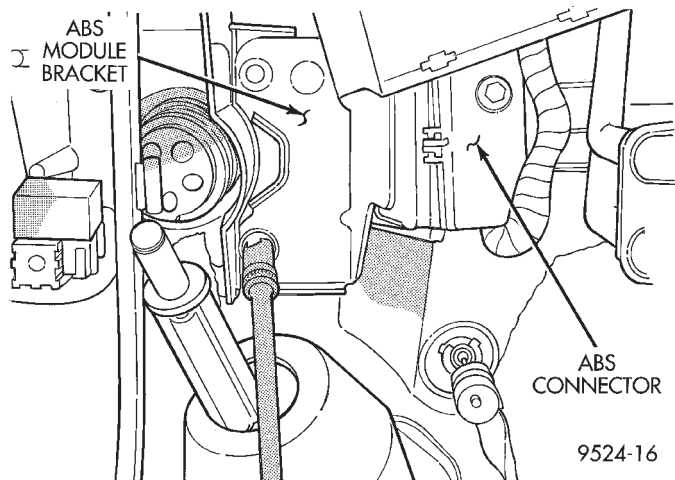

Fig. 31 ABS MODULE
(1) Drain coolant system.
(2) Remove left side lower column cover.
(3) Remove steering column assembly. Refer to Group 19, Steering for service procedure.
(4) Remove ABS module, bracket and wiring (Fig. 31).